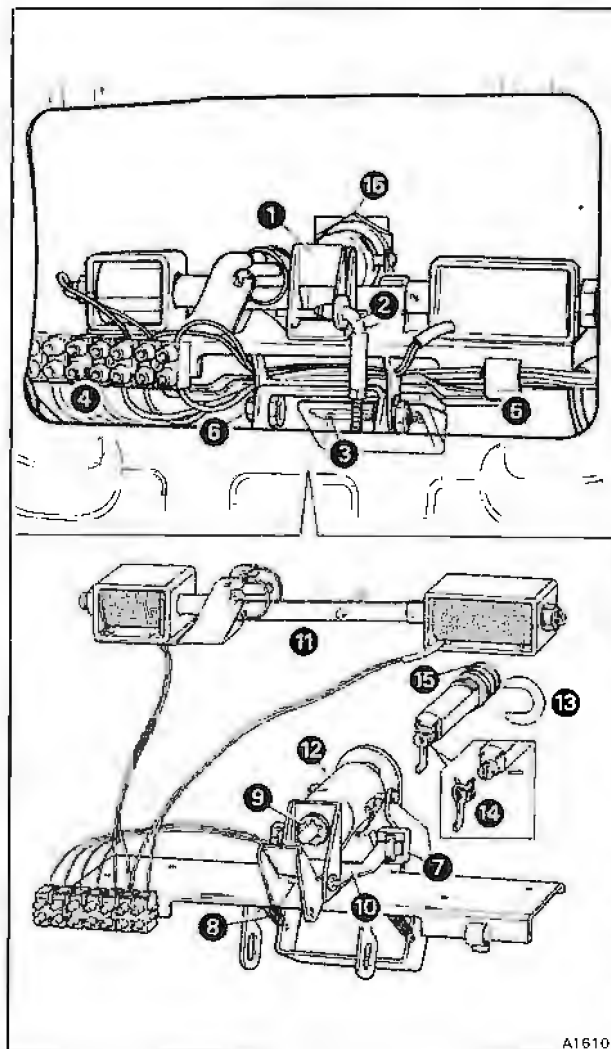

Fig. S7-4 Lock mechanism (incorporating a metal release lever)
Cars fitted with the lock mechanism incorporating a metal release lever (see fig. S7-4, item 1).
3. Disconnect the latch mechanism control rod from the release lever on the lock mechanism (see fig. S7-4, item 2).
4. Drill out the pop rivets (item 3) which secure the luggage compartment lid release handle. Then, remove the retaining plate, handle, and rubber seal.
5. Disconnect the electrical leads (item 4) at the terminal block. Note the colour and position of the leads to ensure correct assembly.
1. To ensure the correct operation of the lock mechanism, a new Starlock washer (item 9) and private lock sealing rings (item 15) should be fitted on assembly.
5. Slide the guide bracket (item 10) into position on the actuator spigot and loosely fasten to the lock mounting bracket.
Manoeuvre the mechanism into position then secure using the bolts, nuts, and washers (see fig. S7-4, item 6). Check that the private lock mounting bracket is firmly seated against the large nut (item 16).